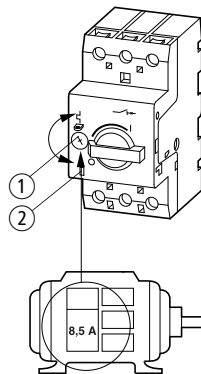

Figure 1: PKZM0-.../XTPR...BC1NL motor-protective circuit-breakers
The rated motor current is set on the PKZM0-.../XTPR...BC1NL units by means of a current dial ① (→ Figure 1).
Proper functioning of the circuit-breaker can be verified by means of the testing feature ② (→ Figure 1, page 25).